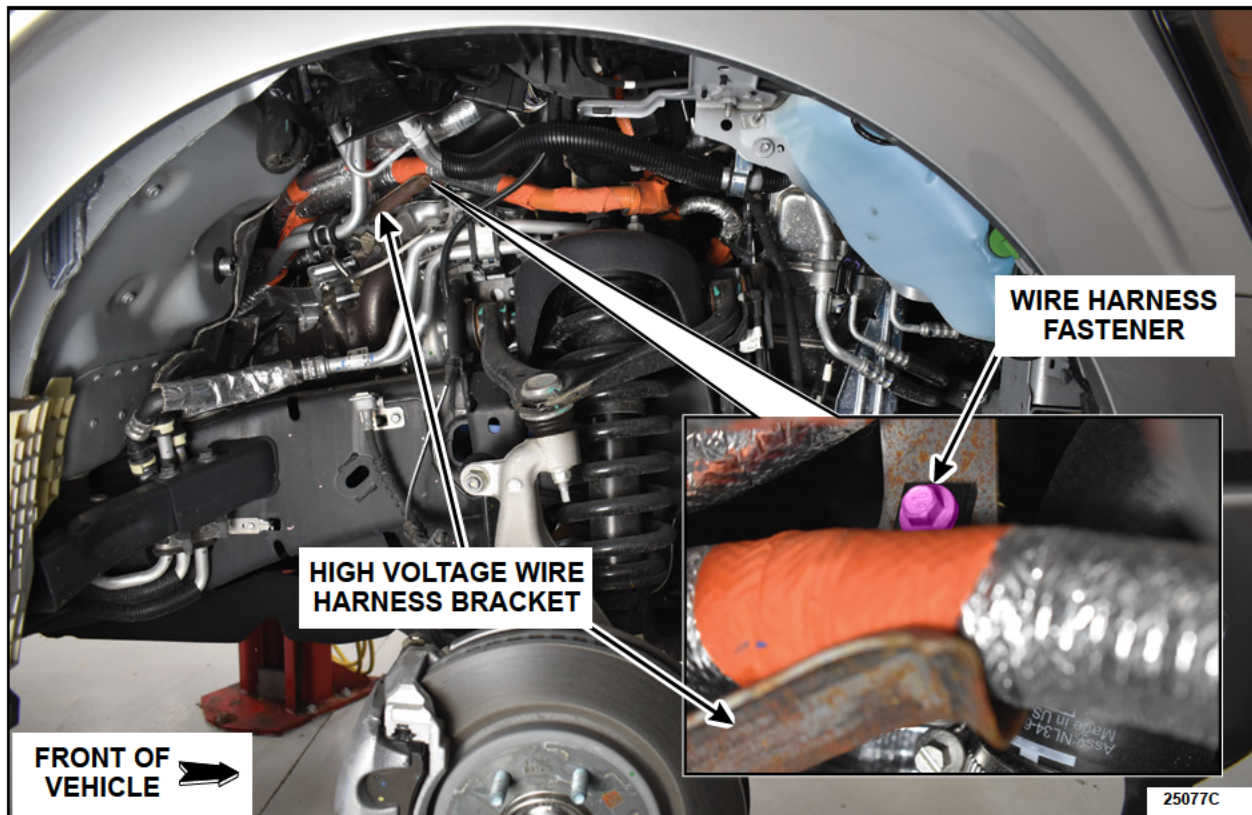

FIGURE 3
12. Remove the high voltage wire harness fastener. See Figure 3.